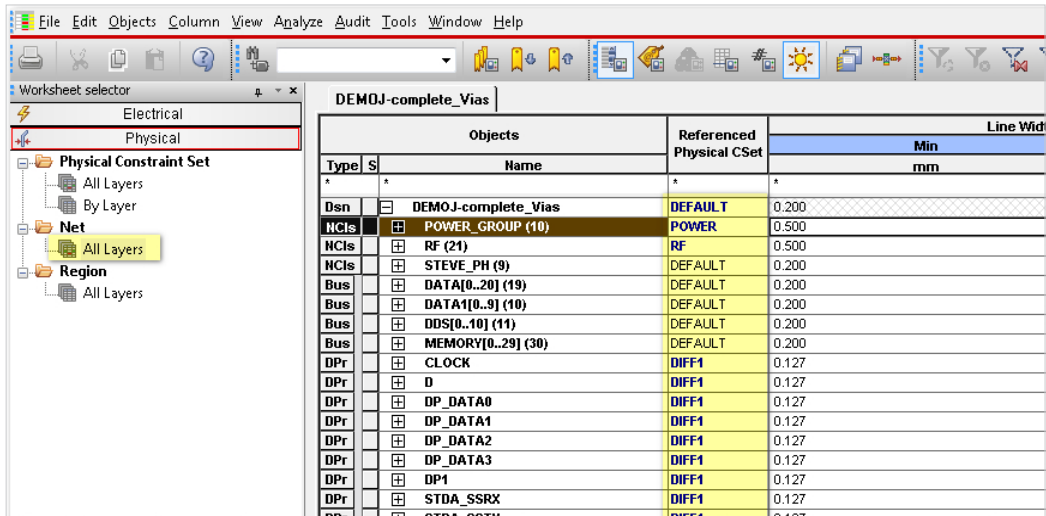

Fig. 18.2 - Constraint Set assignment to net objects
- 2. In the Net section, you can assign a Set for any nets and net objects (Fig. 18.2).